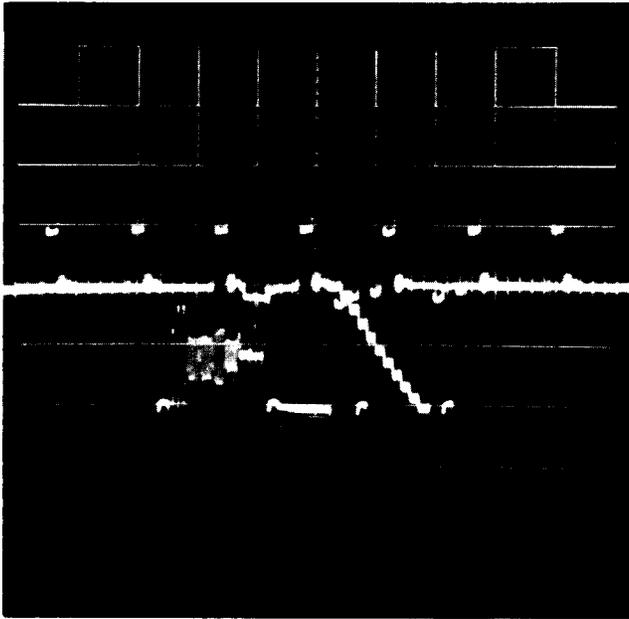

Figure 13. VITS as seen on Oscilloscope
7. The waveform should be similar to that shown in Figure 13. For the oscilloscope display, each vertical sync pulse starts a new sweep. This causes line 17 and line 279 (multi-burst) to be superimposed, as are lines 18 and 280. The multi-burst signals are identical which reinforces the trace. However, lines 18 and 280 are not identical and both signals are superimposed over each other. This should present no problem, since the multi-burst is normally the signal of interest.